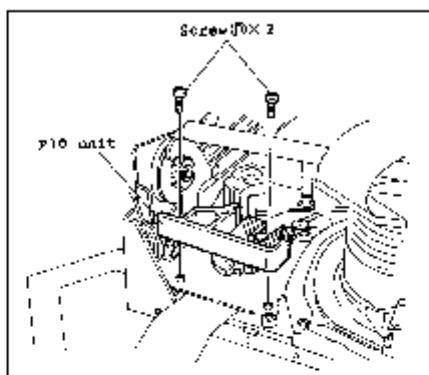

Fig. III-42
### **33. P10 Unit (Fig. III-42)**
- (1) Apply the Grease EL-4 on the  positions in the Fig. III-42.
- (2) Reverse the disassembling procedures.